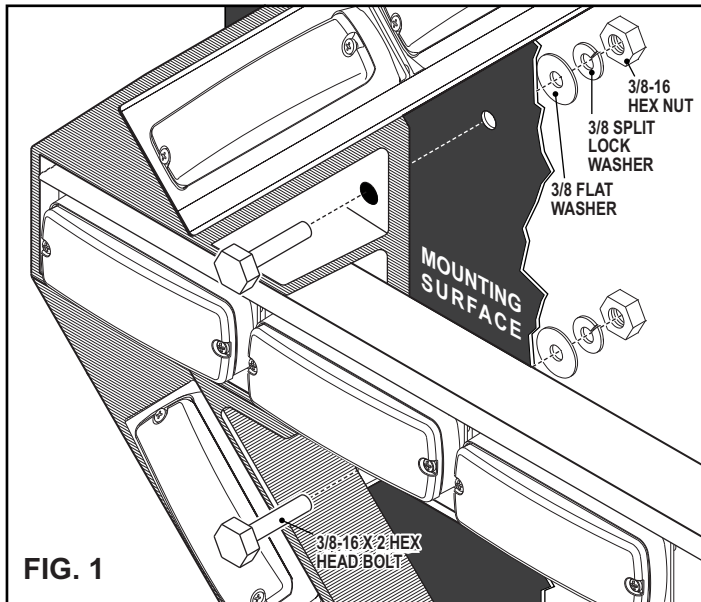

FIG. 1
3. Install the mounting hardware onto the bolts in the order shown and mount the Traffic Advisor to the vehicle (Fig. 1).